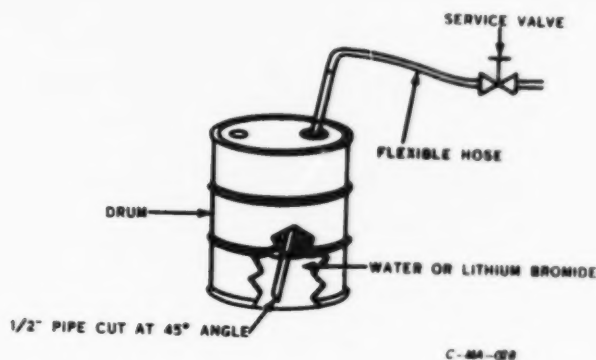

Figure 20. Charging Refrigerant or Solution
1. ☐ Connect flexible hose to 1/2-inch pipe. Cut end of pipe at a 45° angle to prevent pipe from sealing itself on bottom of drum. (See figure 20) Fill both pipe and hose with water.